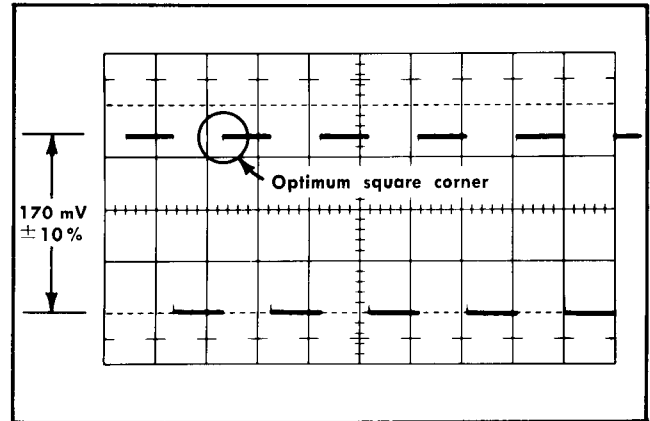

Fig. 5-10. Typical display obtained on the test oscilloscope when checking the SIGNAL OUTPUT gain.
d. Check—Display amplitude on test oscilloscope crt should be 170 mV peak to peak within a tolerance of $\pm 10\%$ (3.4 cm ± 3.4 mm). See Fig. 5-10.